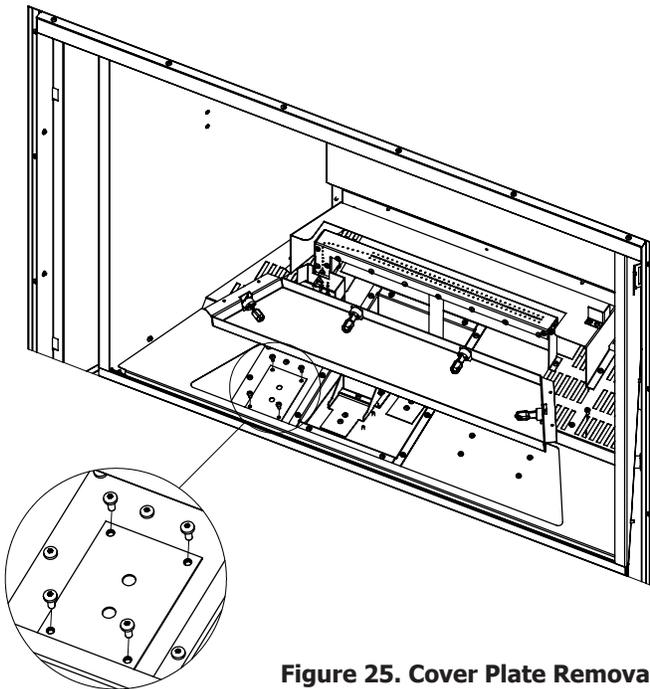

Figure 25. Cover Plate Removal
5. Lift up light tray to reveal cover plate, remove the four (4) T-20 screws and feed the wires out along with the light tray (see Figure 25). Disconnect the wire connectors to fully remove. Do not ever remove merettes.